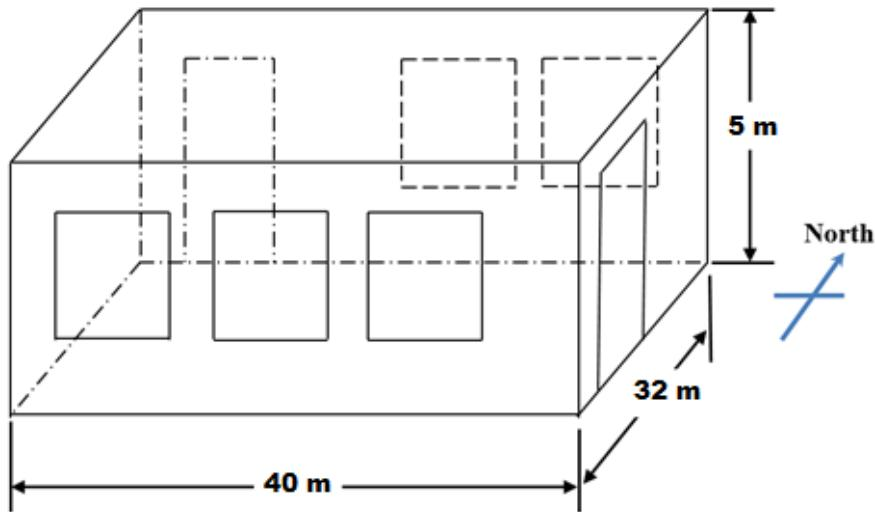

Figure B2/ Rajah B2
- CLO1 (c) A room measuring 40 m x 32 m x 5 m has walls constructed from brick, complete with glass windows and doors as shown in **Figure B2**. Given the internal temperature is 21°C and external temperature is 38°C. By referring to **Table B2**, calculate the heat gain accumulated from the wall, ceiling, floor, glass window and door.